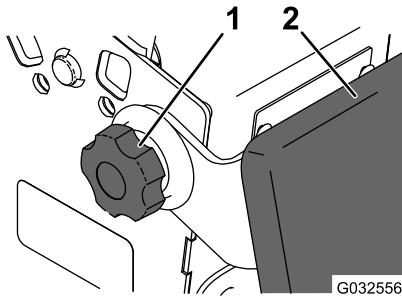

Figure 15
2. Loosen the twist knobs on each side of the machine (Figure 15).